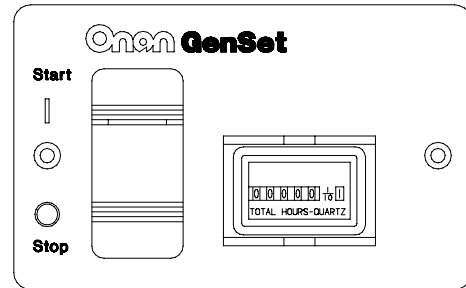

FIGURE 2-4. REMOTE SWITCH / HOUR METER
- Remote switch / status lamp and hour meter (Figure 2-4).